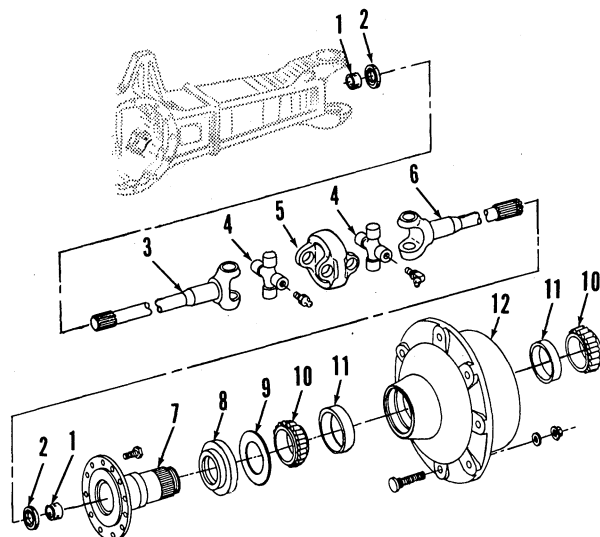

Fig. 22—Exploded view of wheel hub assembly and axle shaft assembly. Washer (9) is not used on 4650 and 4850 tractors.
To disassemble, drain oil from axle housing and planetary carrier. Remove planetary carrier, sun gear and ring gear as previously outlined. Withdraw wheel hub (12—Fig. 22) with bearings. Unbolt and remove spindle (7). Pull axle shaft (6) and U-joint assembly out of axle housing.